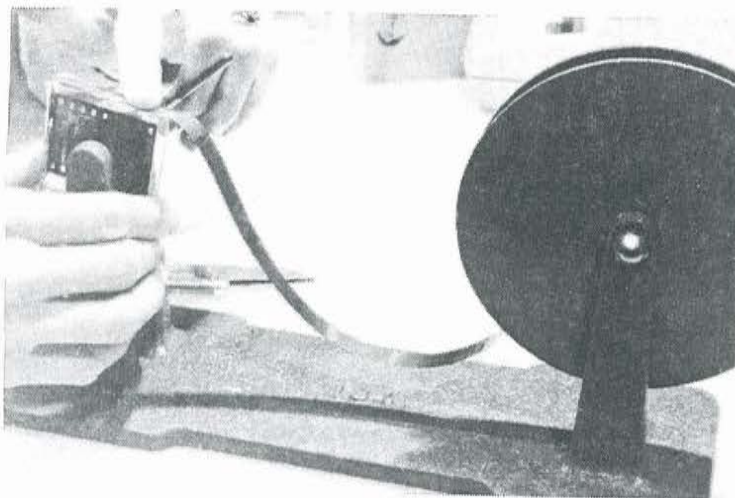

Figure 5. Silver tape being wrapped around glass-film sandwich in a Burke & James Slide Vise.
4. Wrap 1/2-inch silver or polyester metallic tape (Fig. 5) around the periphery of the glass-film sandwich, allowing 1/4-inch for overlap at the end.